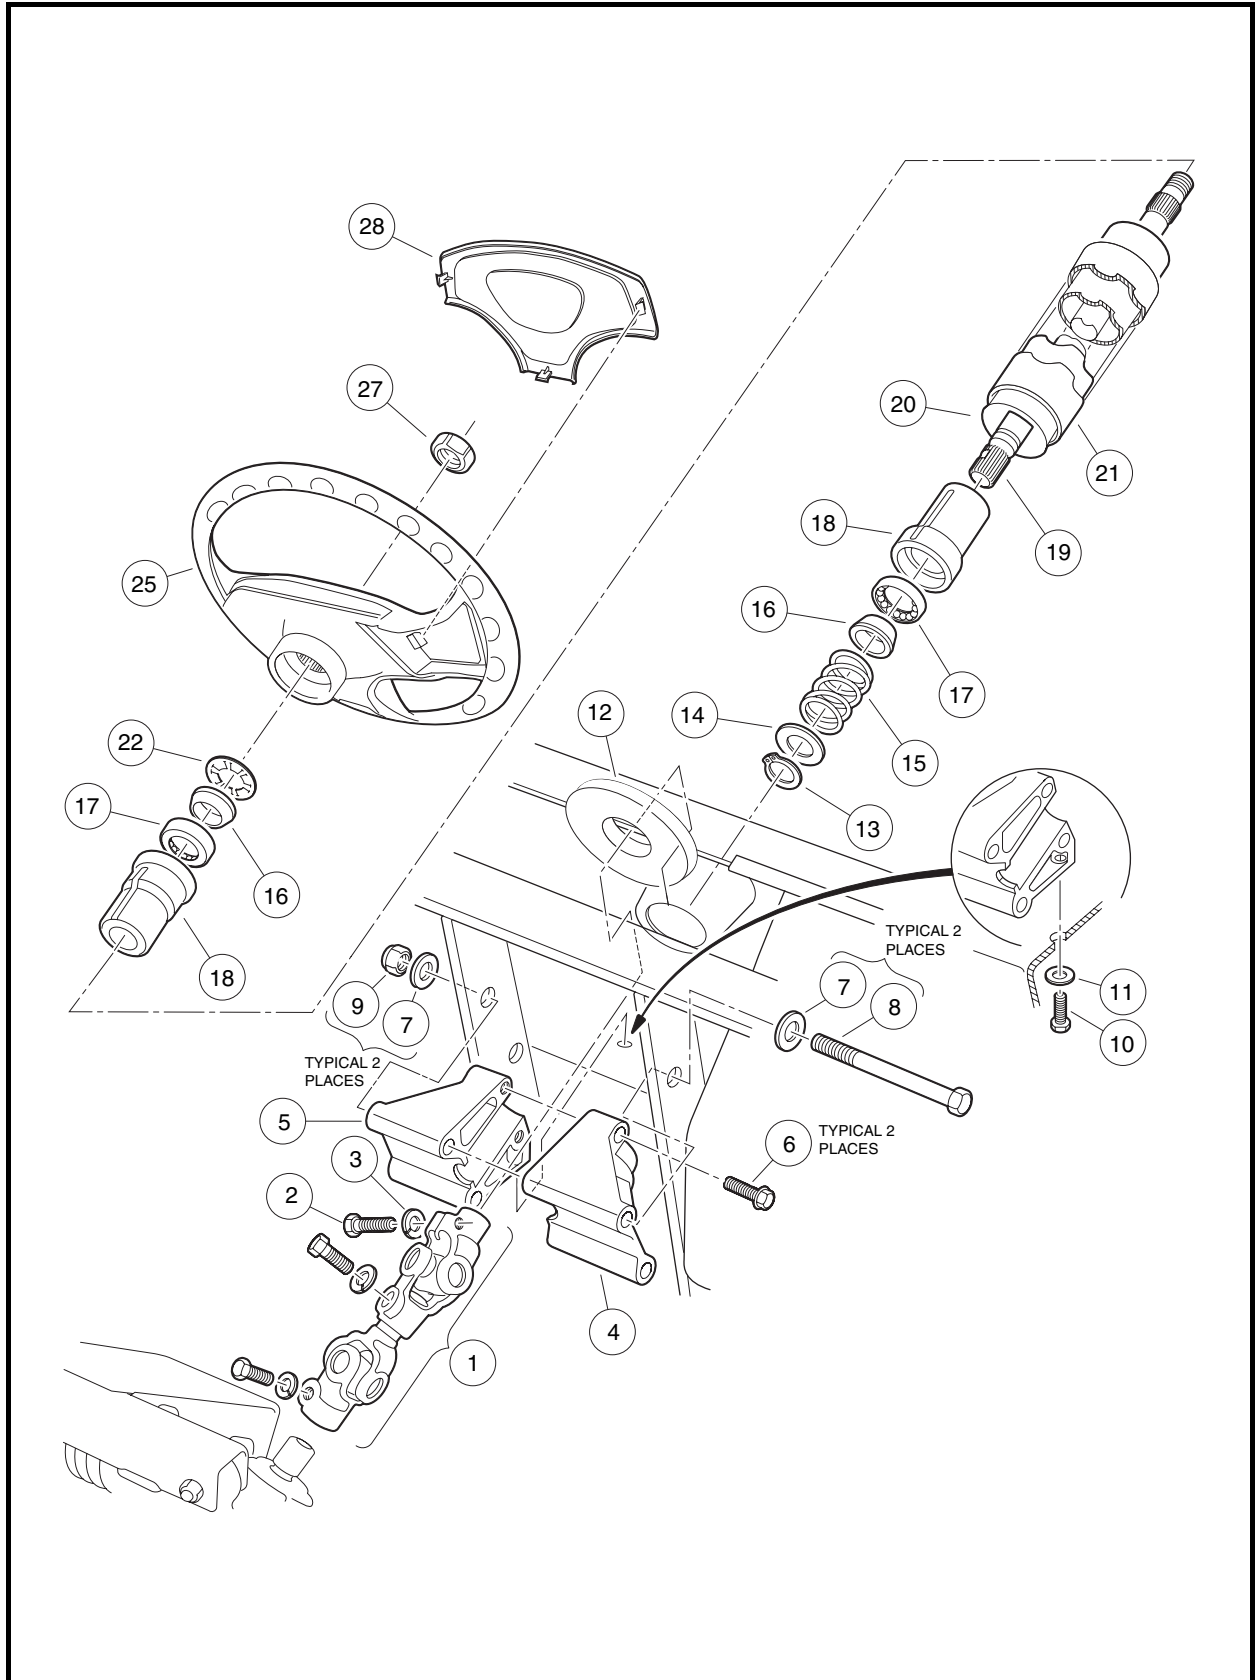

Figure 7-3 Steering Column
2. Remove the two mounting screws (30) and plate (28) (**Figure 7-3, Page 7-3**).
3. Match mark the steering wheel (25) and steering shaft (19) so when the steering wheel is removed it can be placed back in exactly the same position on steering column shaft.
4. Loosen the steering wheel nut (27) and back it off approximately 1/4 inch (6 mm). Do not remove the nut.
- 5.6. Remove the steering wheel nut (27) and the steering wheel (25) from the steering column (20) (**Figure 7-3, Page 7-3**).
1. Install the steering wheel (25) on the splines of the steering shaft (19). Be sure to align the match marks placed on the wheel and steering column in step 3 above (**Figure 7-3, Page 7-3**).
2. Install the steering wheel nut (27) and tighten to 13 ft-lb (17.6 N·m).
3. Install the scorecard plate (28) and plate mounting screws (30) (**Figure 7-3, Page 7-3**). Tighten screws to 16 in-lb (1.8 N·m).
6. Remove the upper bolt (2) and lock washer (3) from the universal joint (**Figure 7-3, Page 7-3**).
7. Remove the nuts (9), bolts (8 and 10), and washers (7 and 11) from the steering column mount (4 and 5).
1. Remove screws (6) and mount (4 and 5) from steering column. Remove boot (12) (**Figure 7-3, Page 7-3**).
2. While supporting steering column (21) on a workbench, remove snap ring (13) from shaft. **See following NOTE.**
4. Insert the shaft (19) from the bottom of the steering tube (20) (**Figure 7-3, Page 7-3**).
1. Install boot (12). Reinstall mount (4 and 5) onto the end of the steering column. Tighten bolts (6) to 20 ft-lb (27 N·m) (**Figure 7-3, Page 7-3**).
3. Position the steering column assembly in the vehicle while inserting the steering column shaft into the upper universal joint (1). The flat portion of the steering shaft spline (19) must be aligned with the bolt hole in the universal joint (1) before sliding the spline into the universal joint. While holding the steering column in place, attach it to the frame using bolts (8) washers (7) and nuts (9) (**Figure 7-3, Page 7-3**). Thread the nuts onto the bolts but do not tighten them.
4. Reinstall washer (11) and screw (10). Tighten to 20 ft-lb (27 N·m).
5. Install the bolt (2) and lock washer (3) on the upper universal joint and finger-tighten.
6. Tighten the two nuts (9) and bolts (8) to 17 ft-lb (23 N·m).
7. Tighten the bolt (2) on the upper universal joint to 15 ft-lb (20 N·m).
8. Check the other two bolts on the universal joint (1) to ensure that they are properly tightened to 15 ft-lb (20 N·m) (**Figure 7-3, Page 7-3**).
5. Remove the bolt (2) and flat washer (3) on the upper universal joint, then remove the rack assembly and universal joint from the vehicle (**Figure 7-3, Page 7-3**).